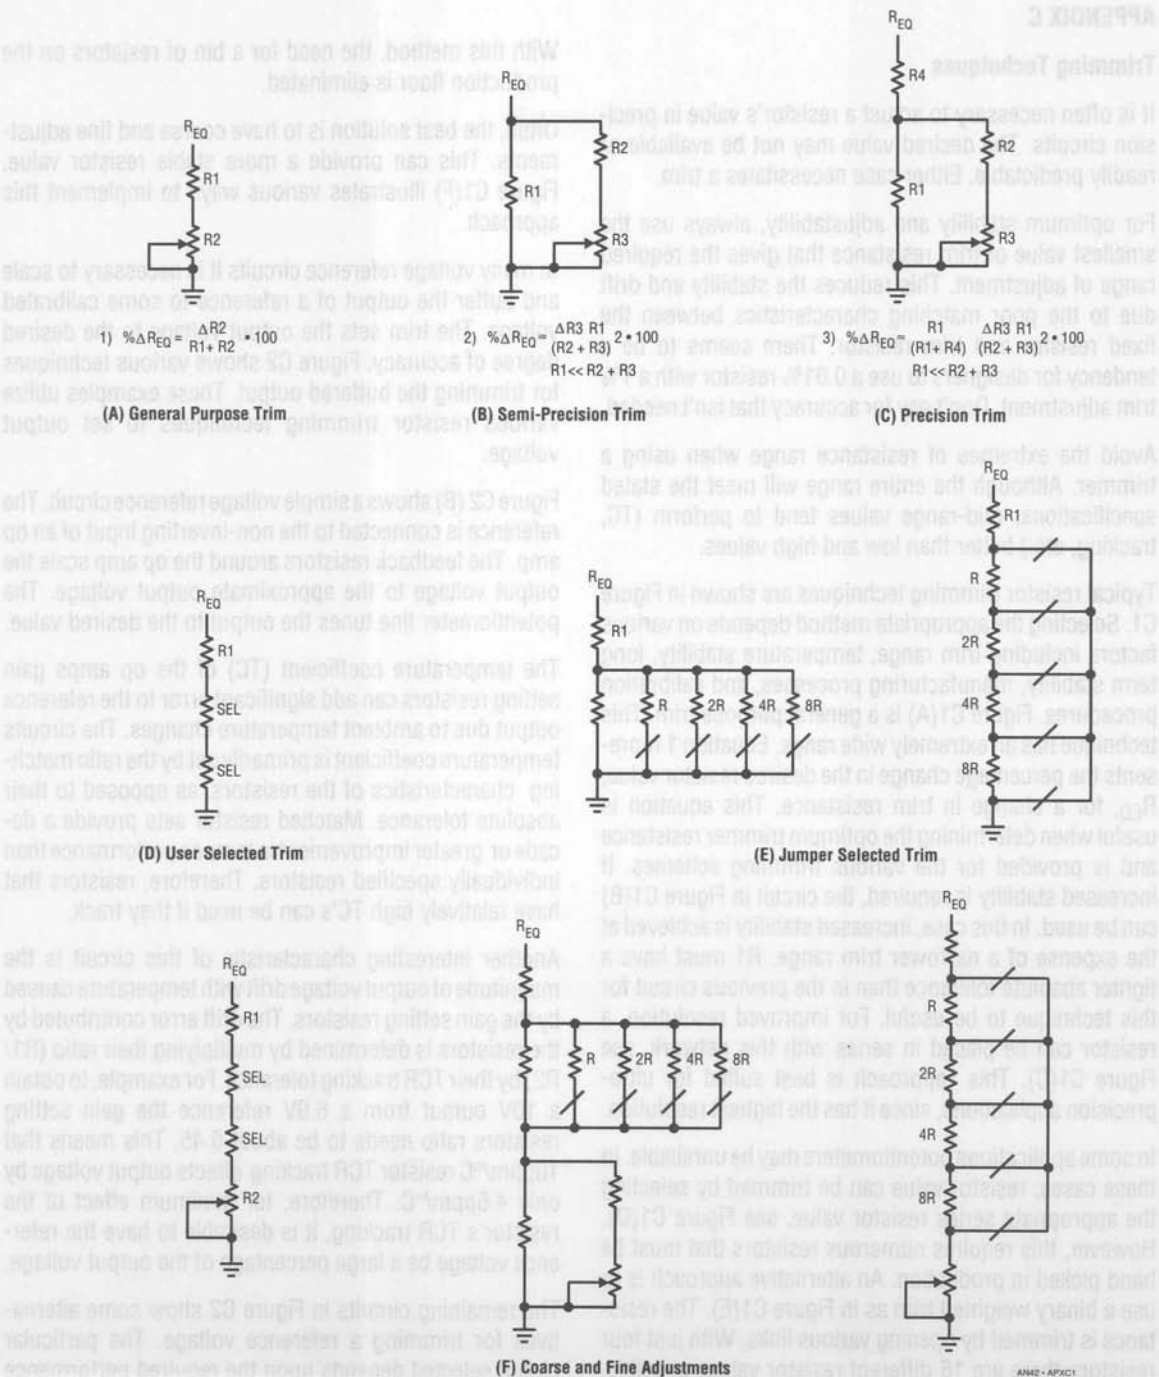

Figure C1. Resistor Trimming Techniques
Typical resistor trimming techniques are shown in Figure C1. Selecting the appropriate method depends on various factors including trim range, temperature stability, long term stability, manufacturing processes, and calibration procedures. Figure C1(A) is a general purpose trim. This technique has an extremely wide range. Equation 1 represents the percentage change in the desired resistor value,  $R_{EQ}$ , for a change in trim resistance. This equation is useful when determining the optimum trimmer resistance and is provided for the various trimming schemes. If increased stability is required, the circuit in Figure C1(B) can be used. In this case, increased stability is achieved at the expense of a narrower trim range.  $R_1$  must have a tighter absolute tolerance than in the previous circuit for this technique to be useful. For improved resolution, a resistor can be placed in series with this network, see Figure C1(C). This approach is best suited for ultra-precision applications, since it has the highest resolution.
In some applications potentiometers may be unreliable. In these cases, resistor value can be trimmed by selecting the appropriate series resistor value, see Figure C1(D). However, this requires numerous resistors that must be hand picked in production. An alternative approach is to use a binary weighted trim as in Figure C1(E). The resistance is trimmed by opening various links. With just four resistors there are 16 different resistor values possible.
Often, the best solution is to have coarse and fine adjustments. This can provide a more stable resistor value. Figure C1(F) illustrates various ways to implement this approach.